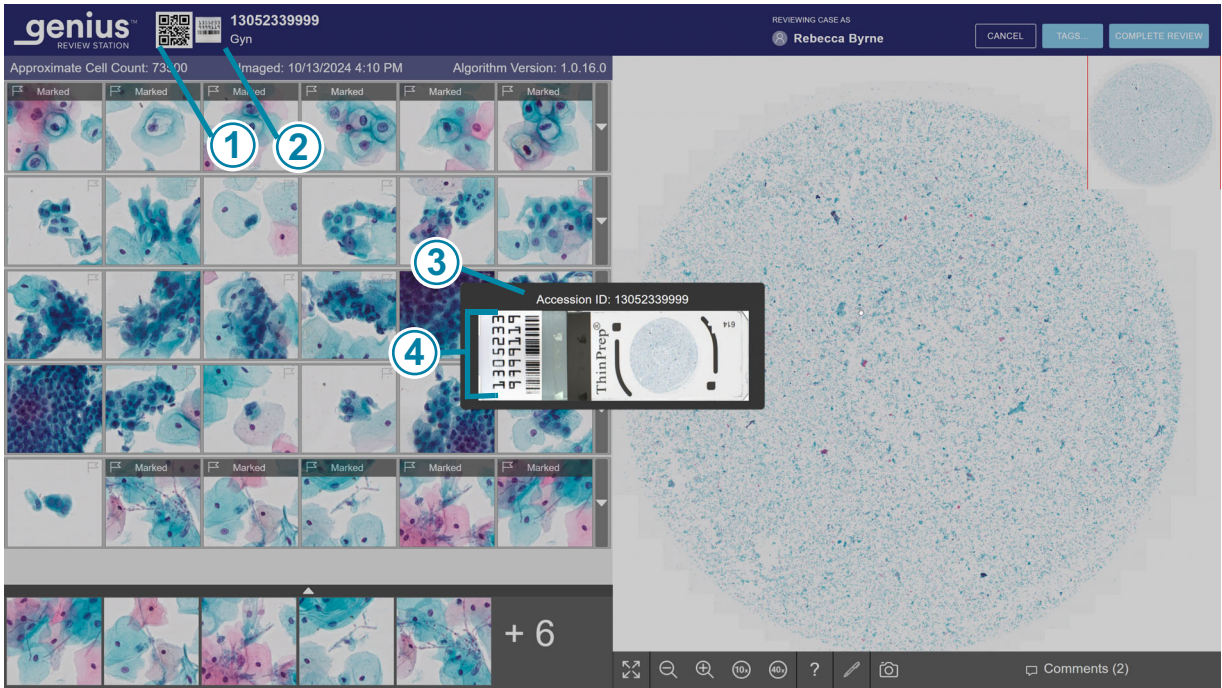

Figure 4-4 Macro Image Shows Slide Label Area, Example of a Case with Genius Cervical AI
①	Accession ID and macro image of the slide label area The Review Station displays the Accession ID as text and as a QR code. To see the macro image of the slide, click on the macro image of the slide label area. Refer to Figure 4-4. To see a larger image of the QR code, click on the QR code. To scan the Accession ID with an optional barcode scanner, scan the macro image of the slide, the smaller QR code of the Accession ID, or the larger image of the QR code.
②	Above the gallery, the approximate cell count, date the slide was imaged, and algorithm version display. Refer to “Cell count, date and algorithm version” on page 4.11 for more details.
Key to Figure 4-4